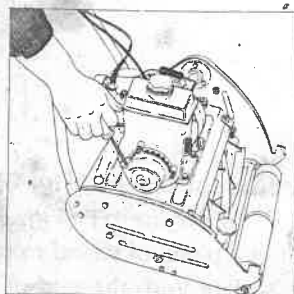

Fig. 4
- 5 Hold the mower firmly with the left hand, pull starter handle (1) slowly until compression resistance is felt and continue to pull until resistance ceases. Allow cord to recoil and then pull handle smartly when engine will fire (Fig. 4).